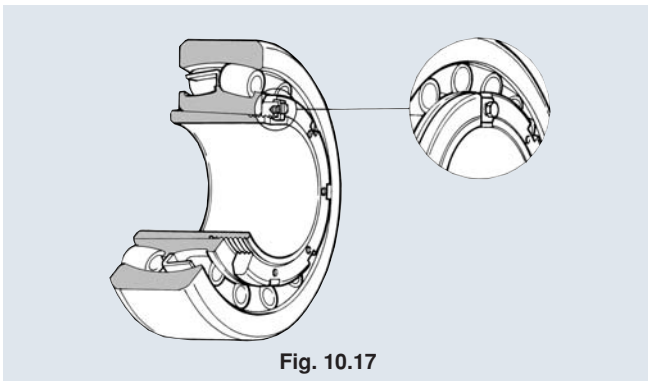

Fig. 10.17
- (10) The adapter used on a large bearing whose bore number is 44 or greater is a lock plate type (**Fig. 10.17**). For this arrangement, first tighten the nut, then fit the lock plate into the cutout on the nut. In this case too, do not loosen the nut to allow the cutout to match the lock plate. Once the lock plate is seated in the cutout, secure the adjustment with a spring washer and a hexagonal nut.